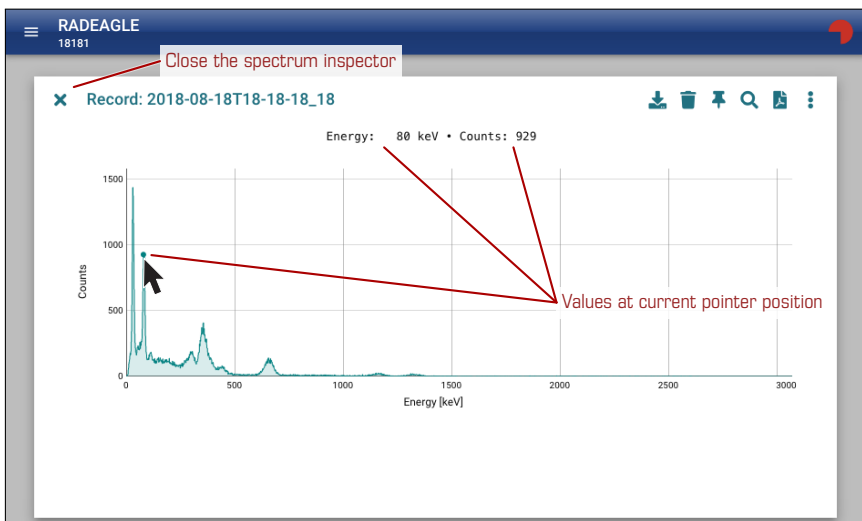

Figure 104: Spectrum diagramm in the Web interface
1. Move the pointer within the chart area and watch the coordinates of the current position shown above the chart (Fig. 104, p. 90).